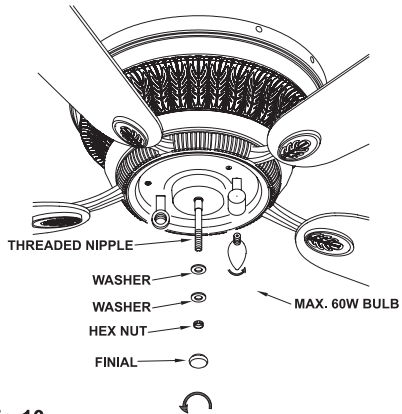

Fig.10
Step 3. Install 2-60W candelabra bulbs (included). (Fig. 10)
nipple. (Fig. 10).